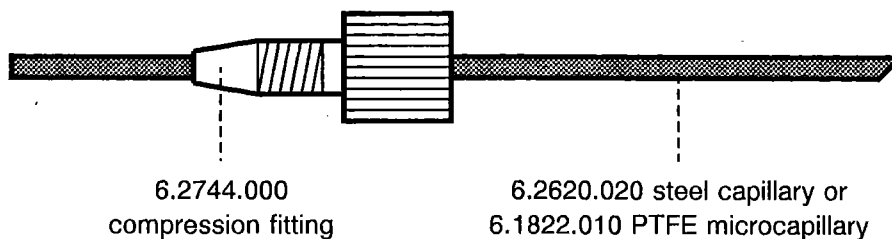

Fig. 9: PVDF connectors
- 2▶ Slid a 6.2744.000 compression fitting over the end of the capillary as shown in *Fig. 9*.